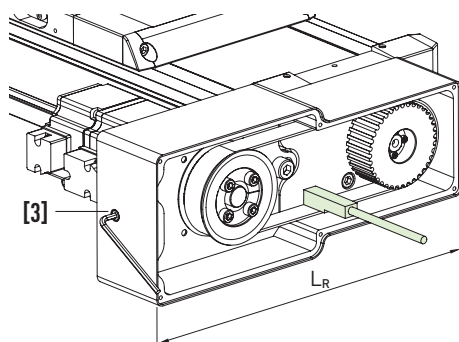

Fig. 6.57 Setting the belt frequency
- ▶ Carefully tighten the clamping bolt [3] on the housing's face side until the belt frequency $\pm 10\%$ calculated with formula F 6.2. This can be measured with a so called Trummeter, or belt tension meter, applied to the inside of the belt as shown in Fig. 6.57. Once the frequency is within the specified range, the mounting bolts [2] can be tightened on the motor flange (see Table 6.24). Secure the bolts.